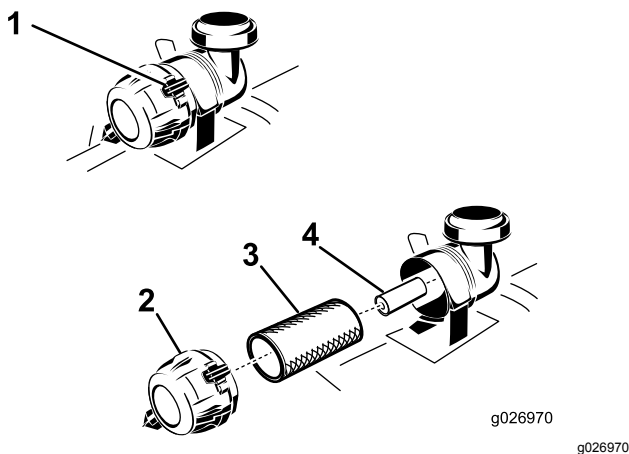

Figure 36
3. Release the retaining clamps on the air cleaner and pull the air-cleaner cover off the air-cleaner body (Figure 36).
5. Gently slide the primary filter out of the air-cleaner body (Figure 36).
2. If you are replacing the inner filter, carefully slide it into the filter body (Figure 36).
3. Carefully slide the primary filter over the safety filter (Figure 36).
4. Install the air-cleaner cover with the breather cap down, and rotate so that the retaining clamps lock the cover in place (Figure 36).